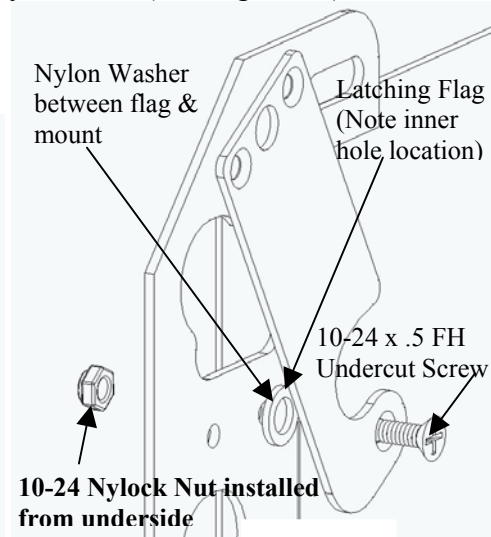

Figure 11
2. Secure latching flag to Plasma Static Mount using .250" OD x .1875" ID x .0312" Nylon Washer, 10-24 x .5 FH Undercut Screw, and 10-24 Nylock Nut (See Figure 11).